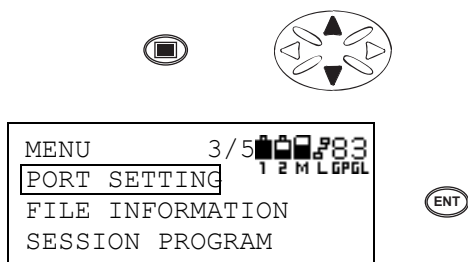

Figure 3-85. Initiate Menu Mode, Scroll to Port Setting, and Press Enter
1. Press the **menu** key to enter the menu mode. Press the **up/down cursor key** to select PORT SETTING and press **ENT** (Figure 3-85).